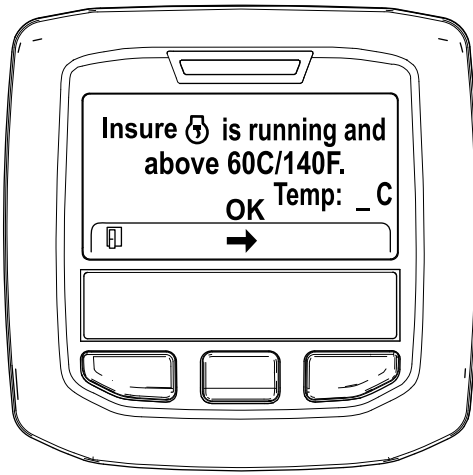

Figure 44
5. If the coolant temperature is below 60°C (140°F) the "Insure  is running and above 60C/140F" message displays. (Figure 44).